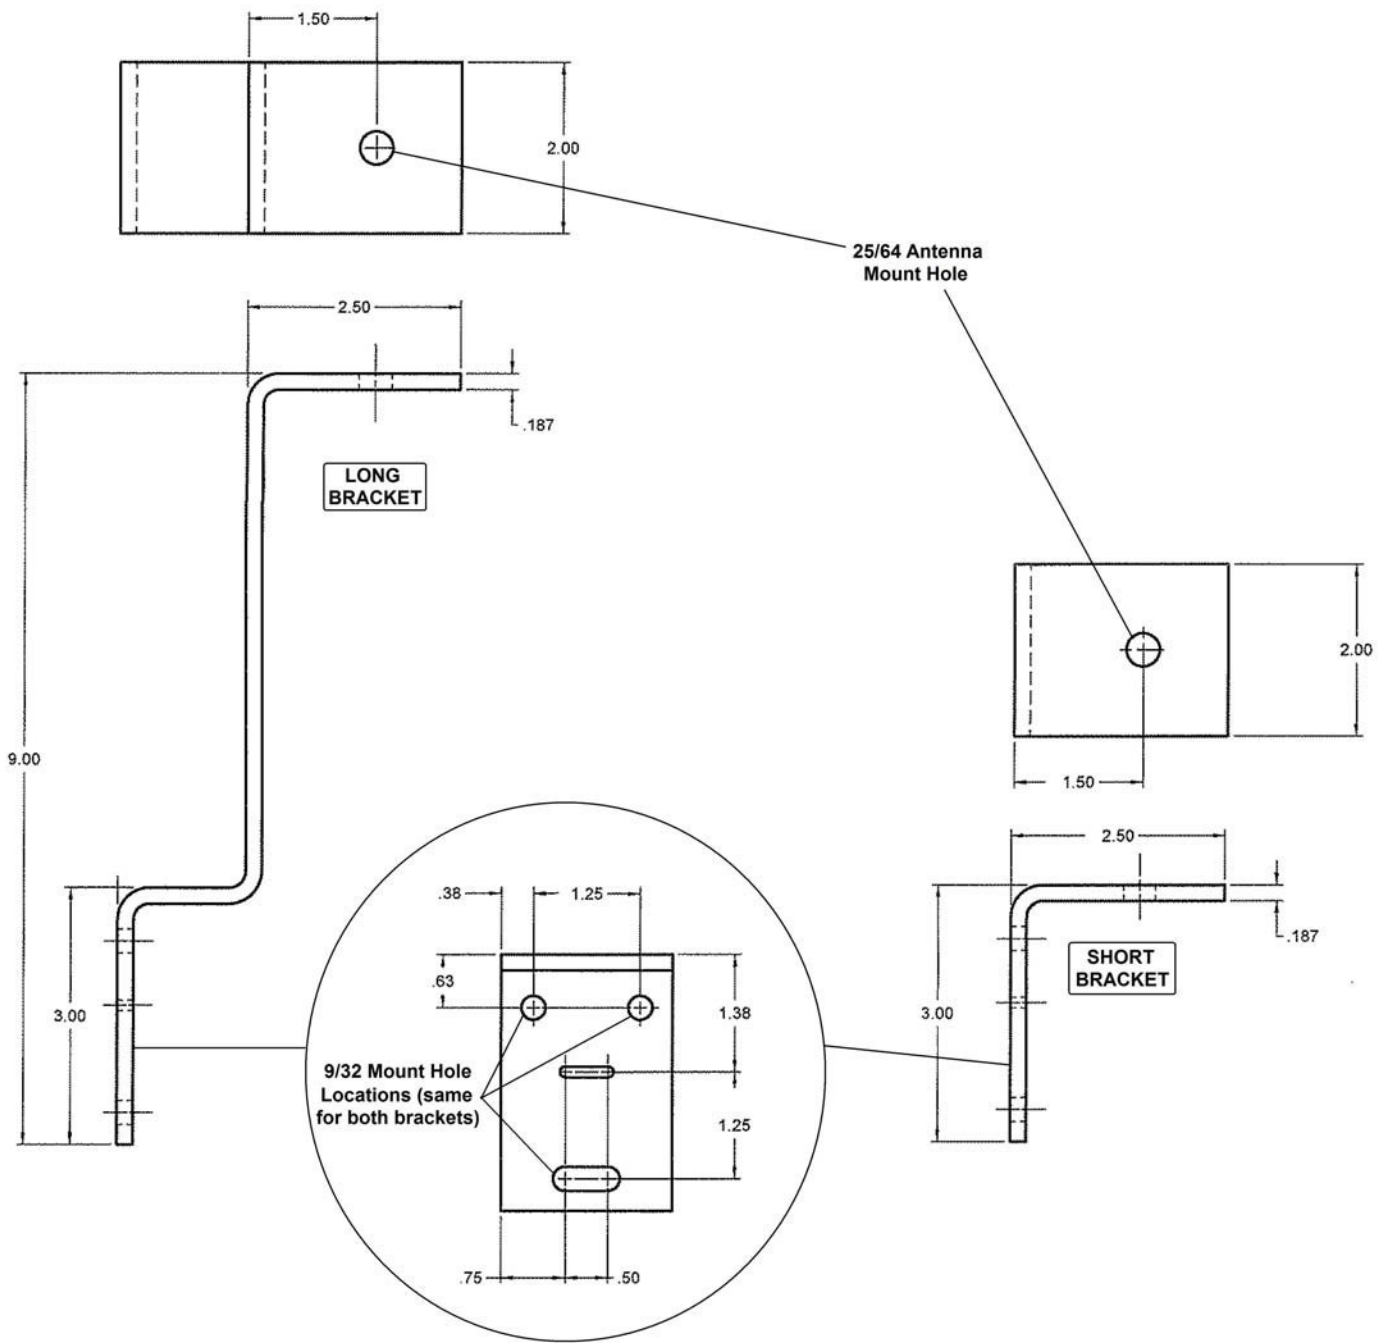

Figure 2. Remote External Antenna Brackets
The Remote External Antenna kit mounts the AIM module in the enclosure, and an external antenna somewhere remote from the enclosure. The external antenna and antenna bracket are not included with the 941B0466 kit, and must be purchased separately. When considering Remote External Antenna kits, consideration should be given to using longer RFID cables over longer antenna cables. This kit must also use an AIM module with an external antenna connector: AIM2 part number 941B0420B, or AIM2.4 part number 941B0720A. These AIM modules do not have an internal antenna. They must have an external antenna. Following are external antenna options. For AIM2 two different antennas are available. 1/4 wave antennas are approximately 3 inches long; 5/8 wave antennas provide greater range and are approximately 9 inches long. The length specified below is the length of the antenna cable. The AIM2.4 modules have only one antenna option; differences occur only with the antenna cable length. In addition to the various antennas and antenna cable combinations, there are also two different antenna mount brackets: 981A0201 short, and 981A0201A long. See Figure 2. Both brackets attach to a vertical surface. The long bracket extends the antenna 6 inches higher than the short bracket.
- e. The remote external antenna will be mounted vertical on an antenna bracket as shown in Figure 2. A suitable mounting location must be found to give the antenna line-of-sight with the FMU antenna when the vehicle is being fueled. Consider the length of the remote antenna cable, and find a suitable mount location for the antenna bracket. Using the bracket as a template, mark three mount holes.